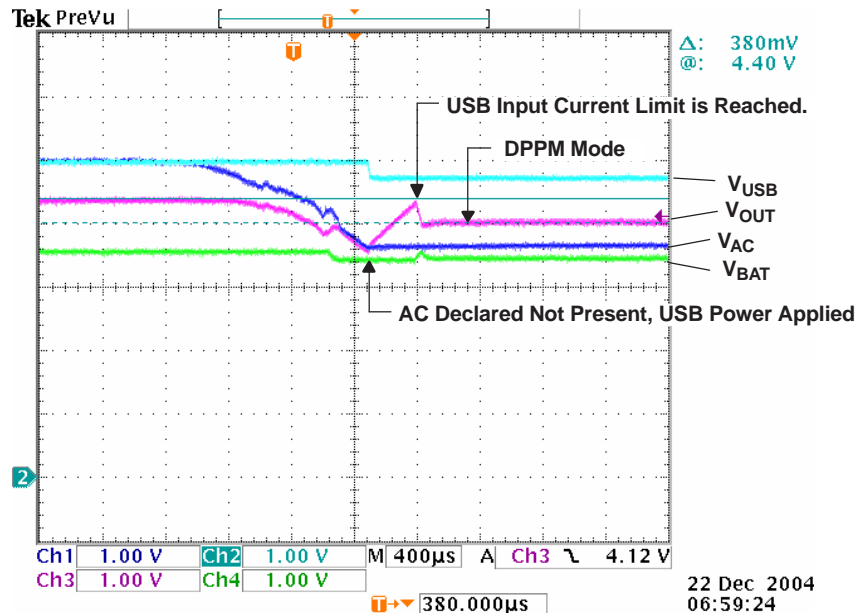

Figure 7. Remove AC – PWR XFER to USB
Figure 7 illustrates when AC is removed, power transfers to USB; PSEL = H (AC primary source); channel 1 (CH1) V_{AC} = 5.4 V; channel 2 (CH2) V_(USB) = 5 V; channel 3 (CH3) V_{OUT}; output current, I_{OUT} = 0.25 A; channel 4 (CH4) V_{BAT} = 3.5 V; and I_(PGM-CHG) = 1 A. The power transfer from AC to USB only takes place after the primary source (AC) is considered bad (too low, V_{AC} ≤ V_{BAT} + 125 mV) indicated by the ACPG FET turning off (open drain not shown). Thus, the output drops down to the battery voltage before the USB source is connected (6th div). The output starts to recover when the USB FET starts to limit the input current (7th div) and the output drops to the V_(DPPM-REG) threshold.